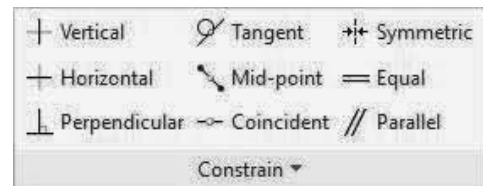

Figure 3-53 Constraint Tools
Step 10: If any 's are missing from your sketch, they can be added using the **constraint** tools found on top of the screen (Figure 3-53). If there are extra symbols, they can be erased by *selecting* them with the LMB, then pressing the <Delete> key.